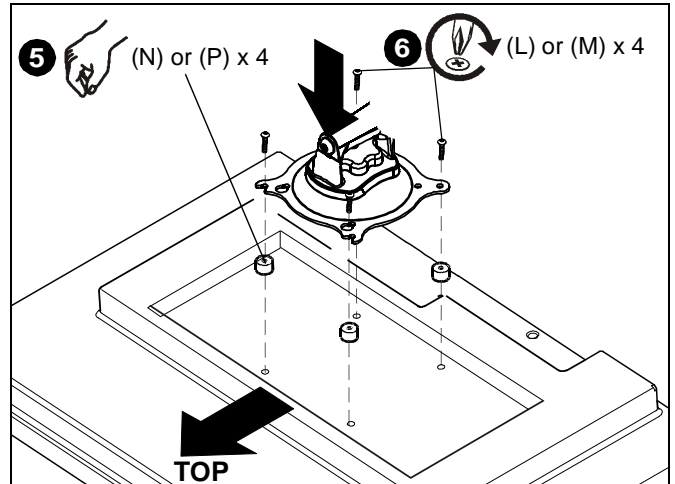

Figure 7
4. Place the four (N or P) spacers over each mounting hole on the back of display. (See Figure 7)
5. Orient mount so that mounting holes in the Centris Turntite head are aligned with the holes in the spacers (N or P). Rotate the Centris Turntite head as required (See Figure 7).
6. Using Phillips screwdriver, install four Phillips screws (L or M) through the mounting holes in Centris Turntite head and the spacers (N or P), into display (See Figure 7).